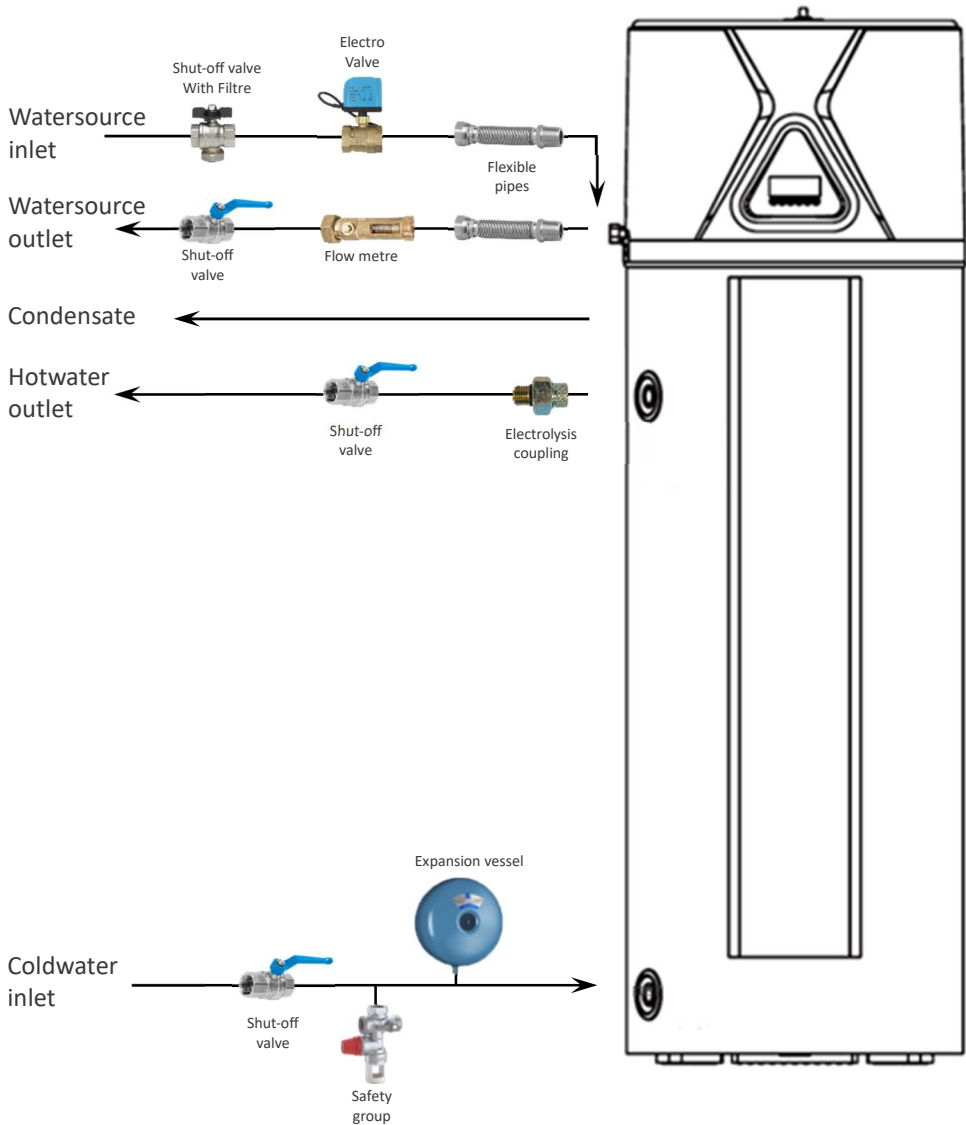

Figure 4 : Hydraulic connections and accessories
- Add shut off valves and safety group, as shown in figure 4.